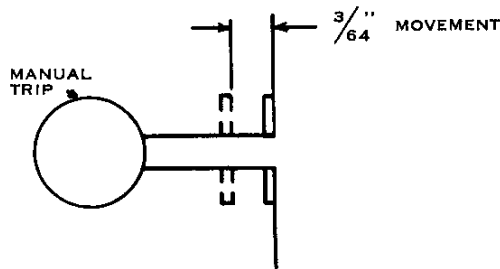

Fig. 51. Hand-release mechanism
3. The hand-release mechanism must have free travel of approximately $3/64$ inch, as measured in Fig. 51, at the "E" retaining ring, before engaging the latch.